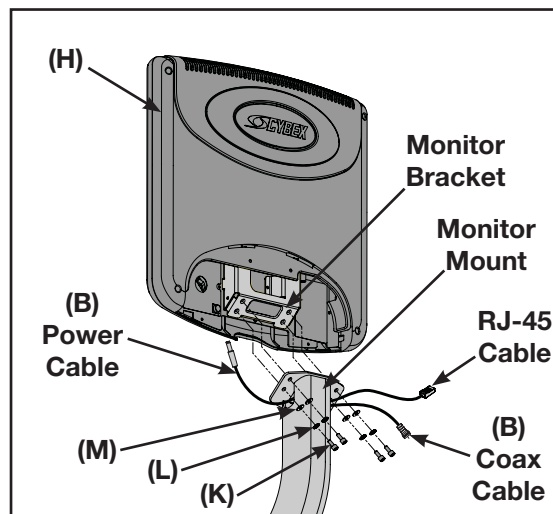

Figure 18
- C. Insert the power cable end of (B) through hole on left side of monitor mount. See Figure 18.
- D. Insert the RJ-45 cable and the coax cable end of (B) through hole on right side of monitor mount. See Figure 18.
- E. Using a 3 mm Allen wrench secure the monitor bracket to the monitor mount using the four mounting screws (K), four lock washers (L) and four flat washers (M). See Figure 18.